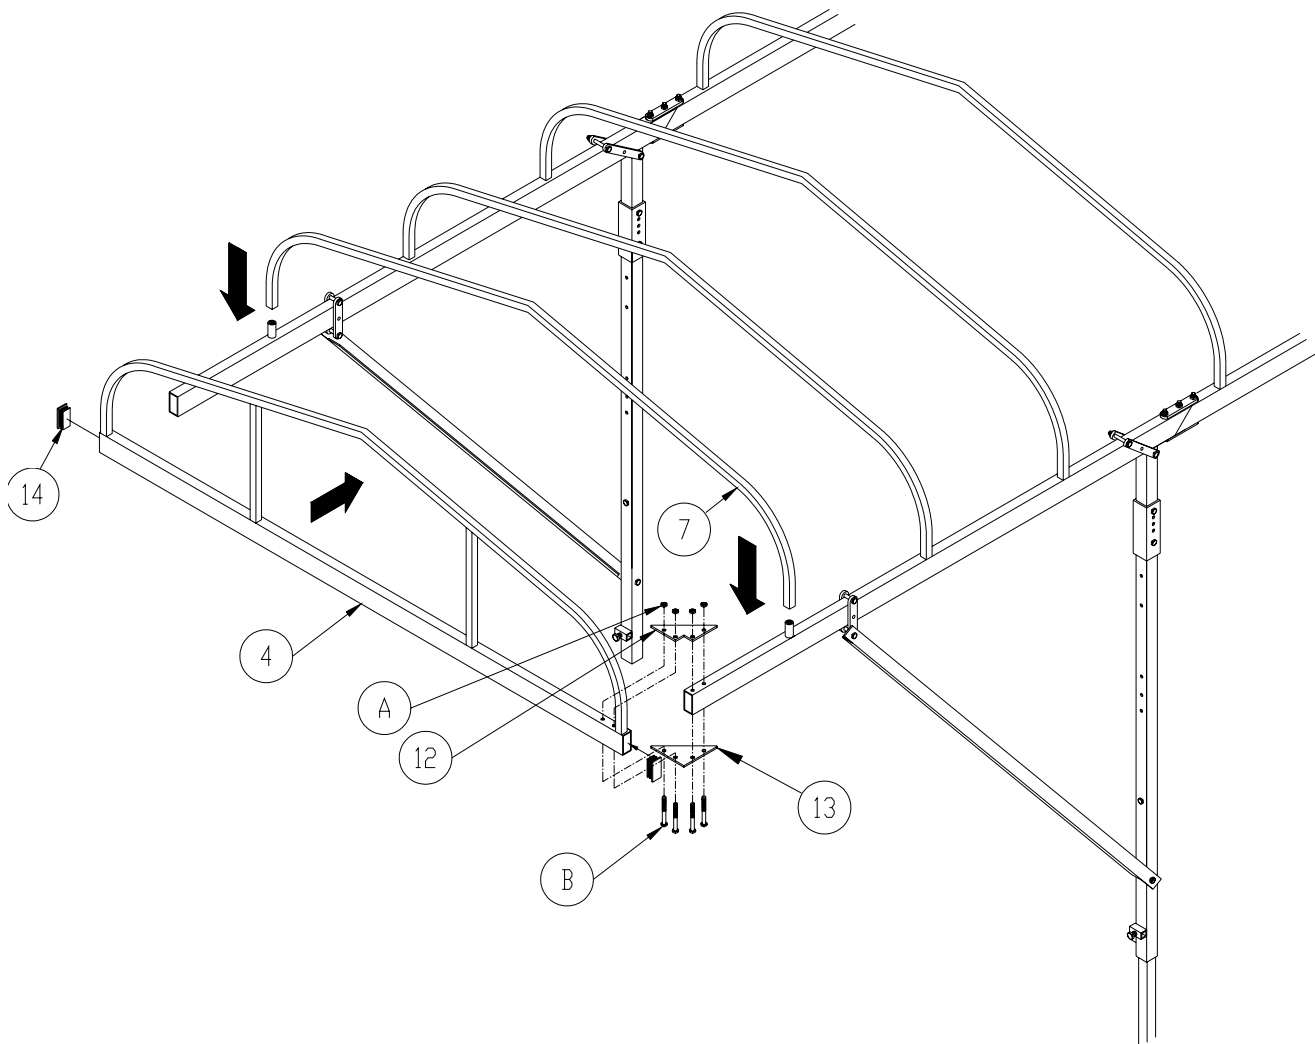

Figure 2-5.
7. Refer to **Figure 2-5**. Attach each canopy end cap to the side stringers using (1) top gusset, bottom gusset, and hardware shown for each corner connection. Before tightening hardware, square the canopy frame by placing a